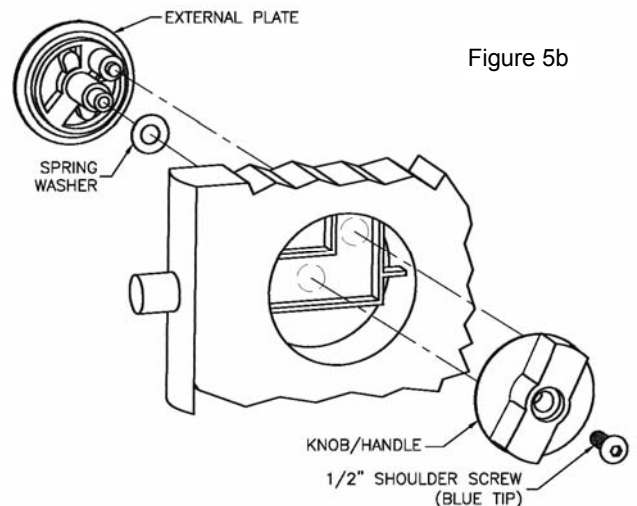

Figure 5b
- f. Mount external plate and knob. Remove clear plastic retainer holding spring washer in place on the post of the external plate. Insert the external plate into door as shown in Figure 5b, with the shorter post inserted into the upper pocket of the internal latch mechanism. Mount the knob/handle on the inside of the door and engage it with both the center post and the shorter, off-center post of the external plate. Insert $\frac{1}{2}$ " shoulder screw with blue tip through the knob/handle and tighten until snug. Check for proper operation of knob and latch pin before final tightening.
- g. Locate strike/keeper on the latch-side pilaster so the latch pin engages with it when the door is closed. Drill ($\frac{1}{4}$ " bit) mounting holes and secure strike/keeper to pilaster using thru bolt (1), with black rubber bumper facing out for outswing doors and in for inswing doors.